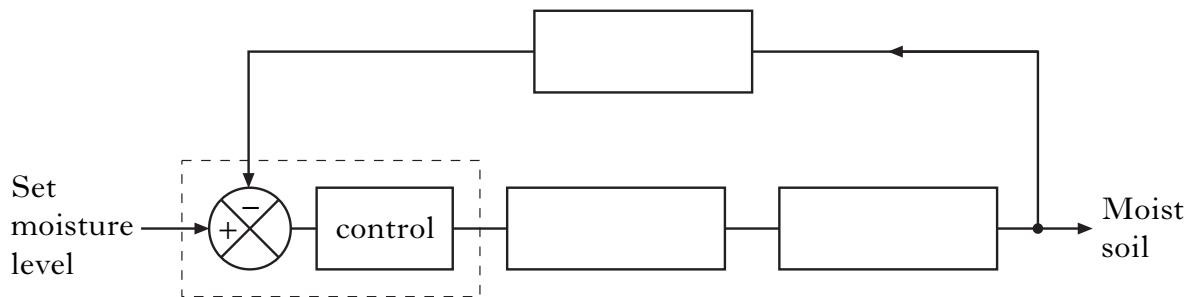

Figure Q2
- (a) Complete the control diagram (in Figure Q2) for the system.
- (b) (i) State the type of control shown in Figure Q2.